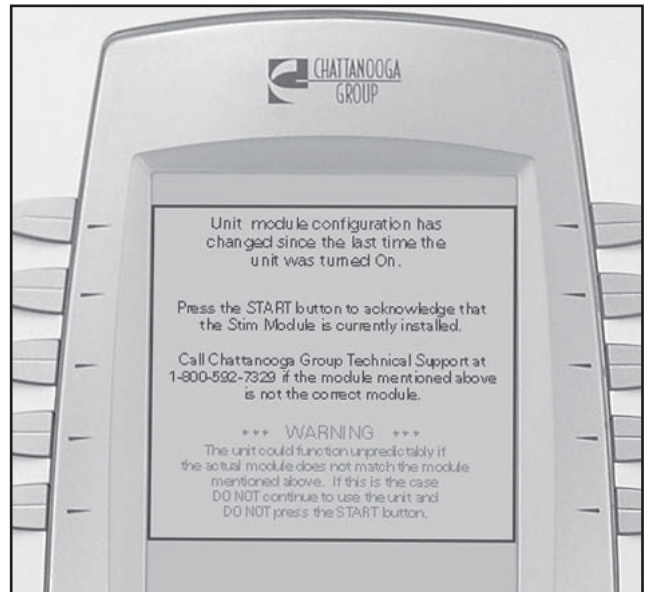

FIGURE 6.11
13. Turn the System On using the On/Off Switch. The system will automatically recognize the added module and display a configuration change message. See Figure 6.11.